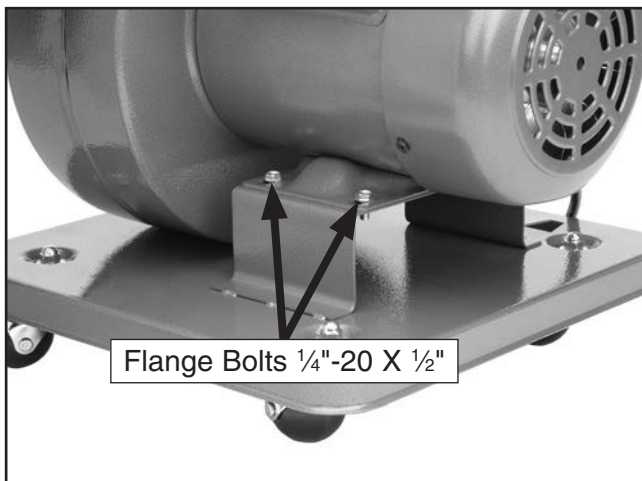

Figure 8. Mounting the collector body assembly to the base.
2. Position the collector body and fan/motor assembly on the base, then secure it with the flange bolts, as shown in **Figure 8**.